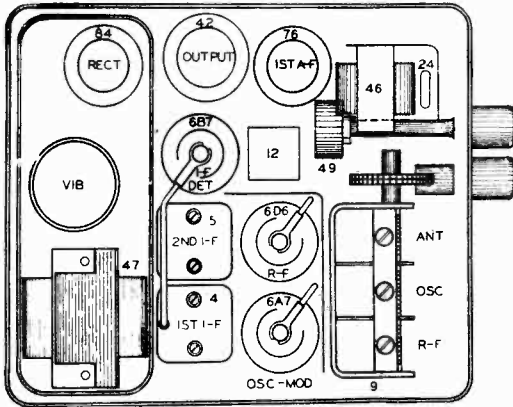

Fig. 3 PARTS LAYOUT—Top View
- (d) Peak the I. F. trimmer P-3 for the 2nd I. F. coil shown on Fig. 3.
- (e) Then peak trimmers P-2 and P-1 of the first I. F. coil also shown on Fig. 3.
- Peak the antenna compensating condenser (Fig. 3) for maximum output.